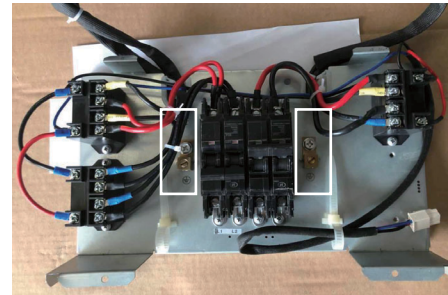

Fig. 31 — Secure the power input wires of each group
12. See Figure 31 for the securing position of the power supply ground wire. Secure the power input wires for each group, and make sure that the cable is properly grounded.